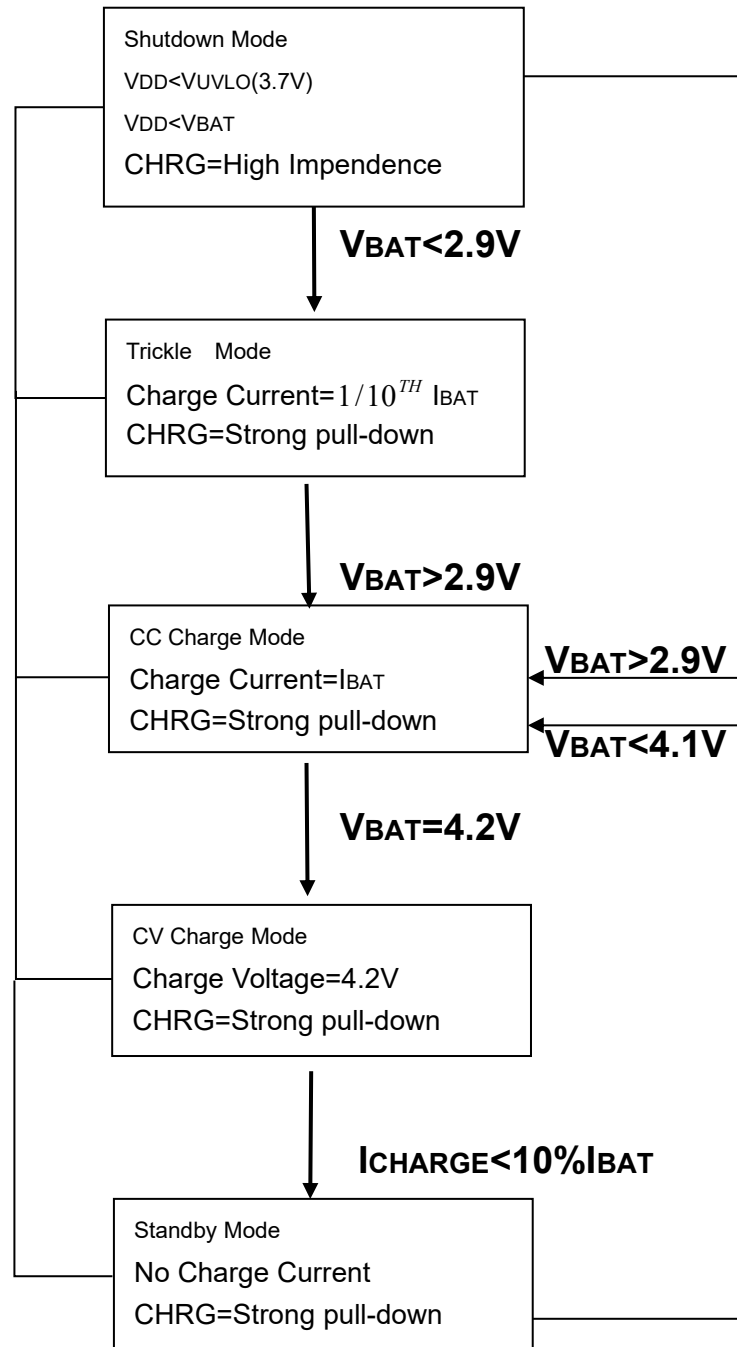

Fig.1 State diagram of a typical charge cycle
4.10V recharge threshold (V_{RECHRG}), another charge cycle begins and current is once again supplied to the battery. To manually restart a charge cycle when in standby mode, the input voltage must be removed and reapplied or the charger must be shut down and restarted using the PROG pin. Figure 1 shows the state diagram of a typical charge cycle